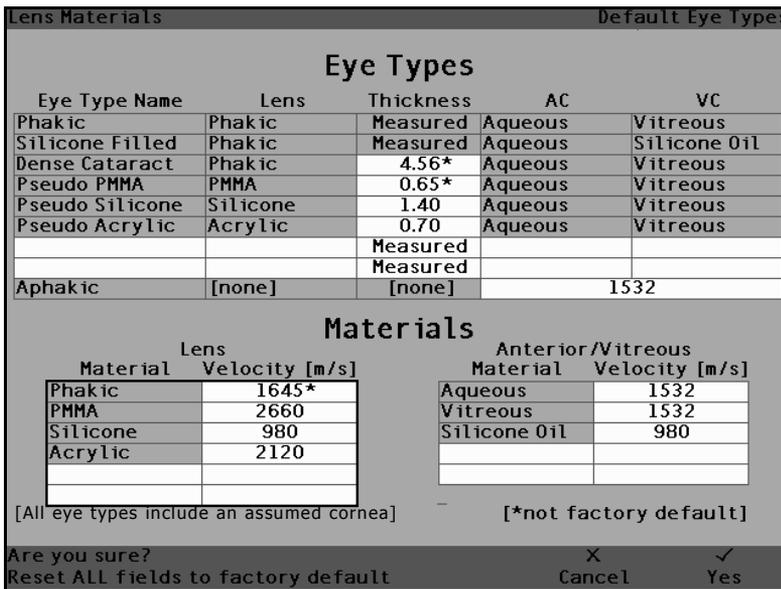

Figure 50 Restore All Fields Prompt
2. The Accutome A-Scan Plus will prompt you with the message "Are you sure?" as shown in Figure 50 below. You must either cancel or continue.